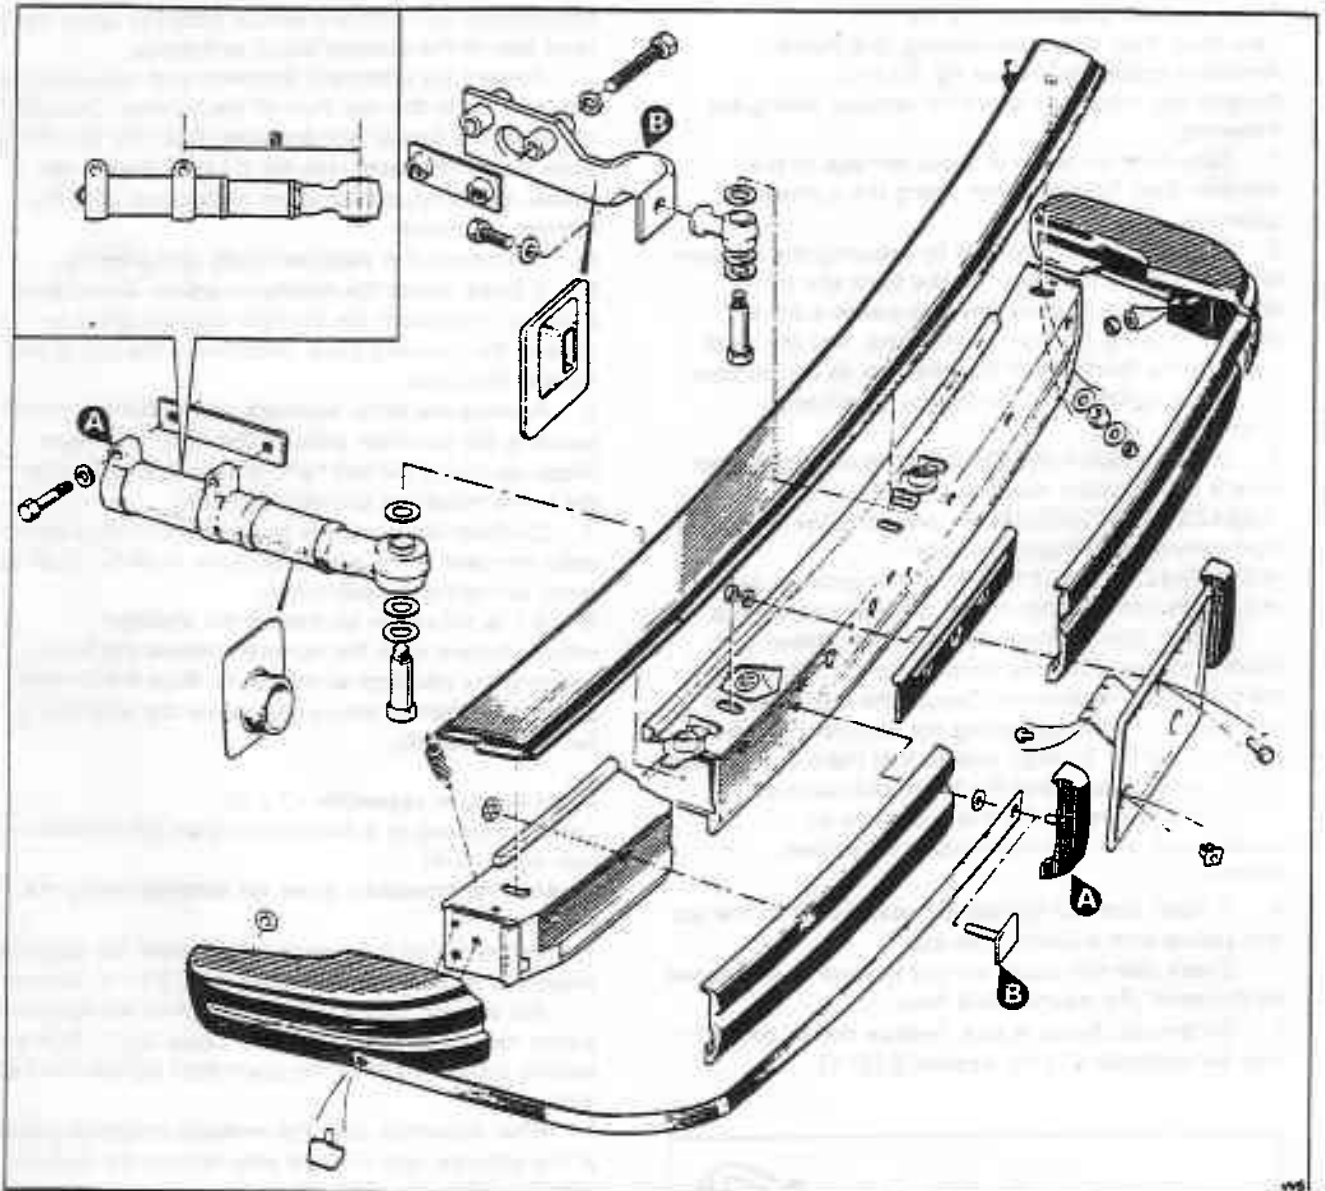

Fig. S14-4 Front bumper assembly
Front bumper assembly - To remove *Cars conforming to a North American specification (see fig. S14-4)*
Cars conforming to a North American specification (see fig. S14-4)
1. Before fitting the absorber units into the apertures check the length of the units (see fig. S14-4, item a).